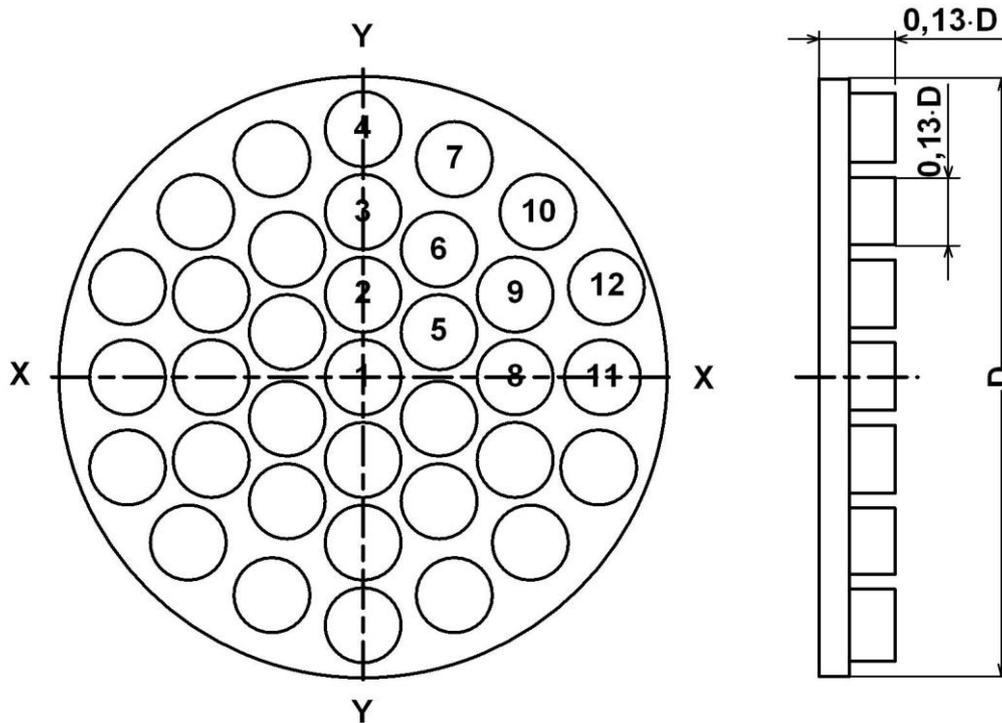

Fig.E.2. Design of flow straightener of B type
2. To reduce the weight and amount of material, the flow straightener of B type (Fig.E.2) can be used according to the following rules: